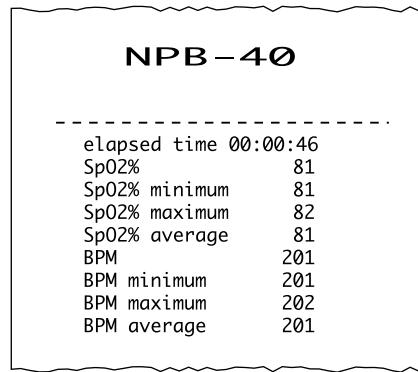

Figure 3-3: Typical Average Data Print Out
Note: In the following steps, printed SpO2% values will be 79 to 83 and pulse rate values will be 201, ± 3 bpm. Figures 3-3 and 3-4 are examples of typical print outs. The NPB-40 will not display pulse or SpO2% values while printing.
22. Verify that the PRINT icon is illuminated on the NPB-40 display, that the printer begins printing and that the printer prints out a summary report similar to that shown in Figure 3-3.